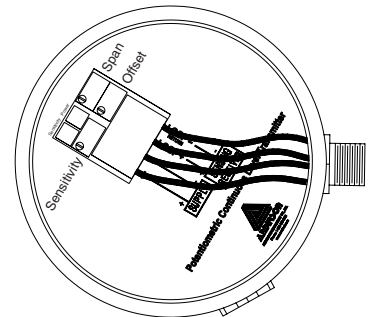

Figure 2
3. Observe red LED labeled SENSITIVITY (see Fig. 2 LN Sensitivity Table).